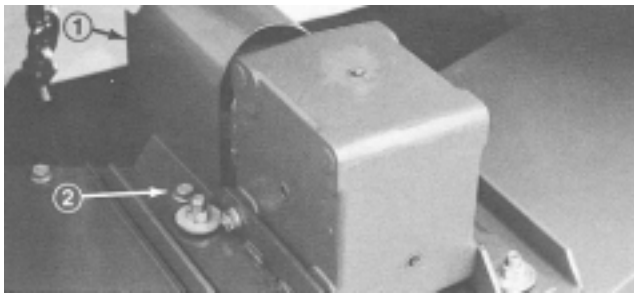

Figure 11
2. Remove the 2 self-tapping screws holding the PTO shield to the top of the gear box mounting plate (Fig. 11). Move the cutting unit into position in front of the traction unit.